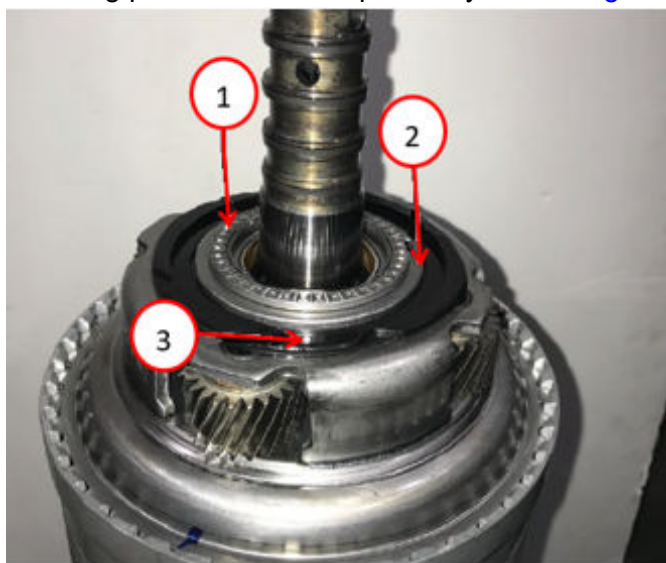

Fig. 31
48. Install the thrust bearing and holding plate onto the P1 planetary carrier Fig. 31.